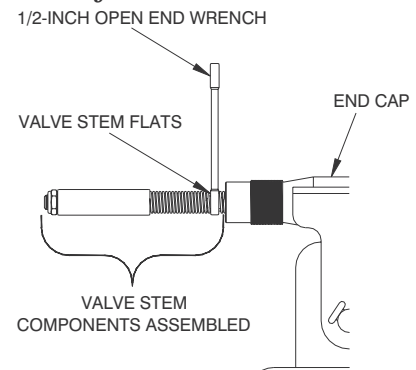

Figure 11-16. Hold Valve Stem Across Flats.
1. With the End Cap secured as in 11.12.1, hold the Valve Stem (11) at its flats with an 1/2-inch open end wrench. Refer to Figure 11-16.